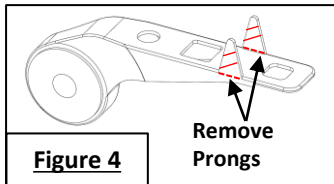

Figure 4
- Modify Exhaust Hangers** – Using a cutting tool, remove the two prongs from each exhaust hanger bracket, **See figure 4.**